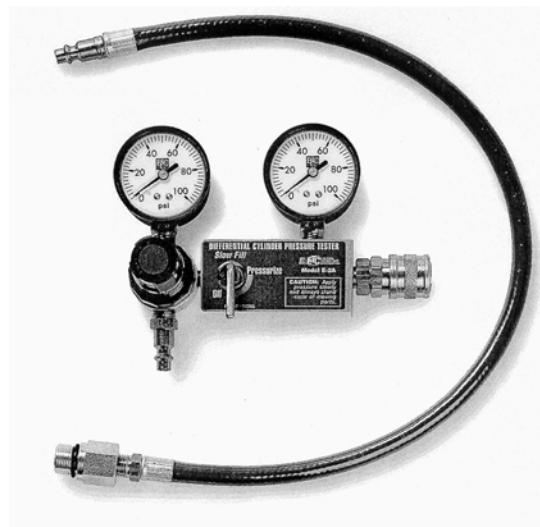

FIGURE 2
- Eastern Technology Corporation Model E2A^①. See Figure 2.